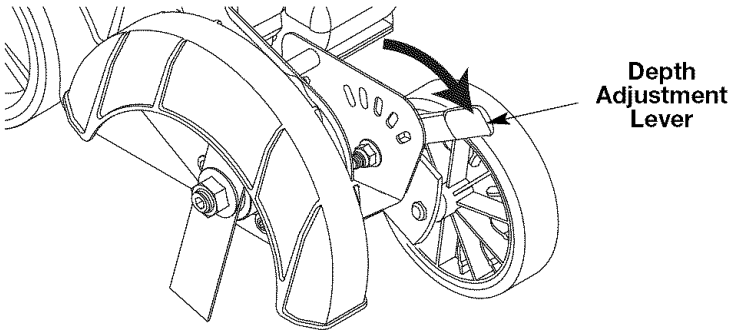

Fig. 36
2. Move the depth adjustment lever all the way forward (Fig. 36) to raise the front wheel enough to provide clearance for the blade to turn freely.